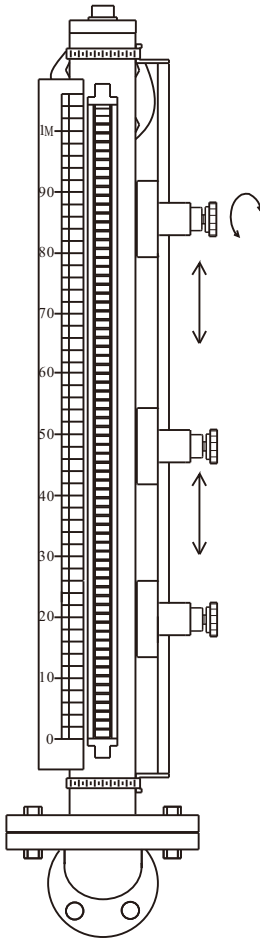

fig. 3
3. (Fig.3) By-pass Level Indicator with adjustable magnetic switches and SUS304 ruler. It can be assembled with upward /downward movable multiple magnetic switches on a riding rod.
1. The magnetic switch (EFB-14□□ series) is to be placed on a riding rod, then fasten the riding rod to the chamber with two hose clamps. (see page 18 - fig.3)
10. See fig.3 for the installation direction of mounting holes